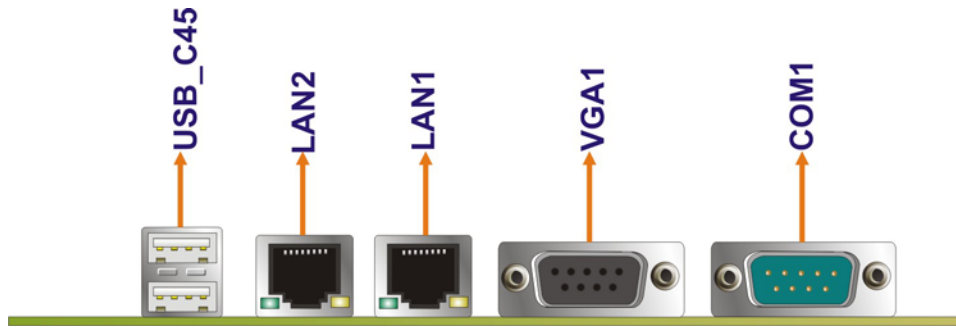

Figure 3-14: ECW-281B/281B2-R30/N270 External Peripheral Interface Connector
Figure 3-14 shows the ECW-281B/281B2-R30/N270 external peripheral interface connector (EPIC) panel. The ECW-281B/281B2-R30/N270 EPIC panel consists of the following:
- CN Location:** See **Figure 3-14**